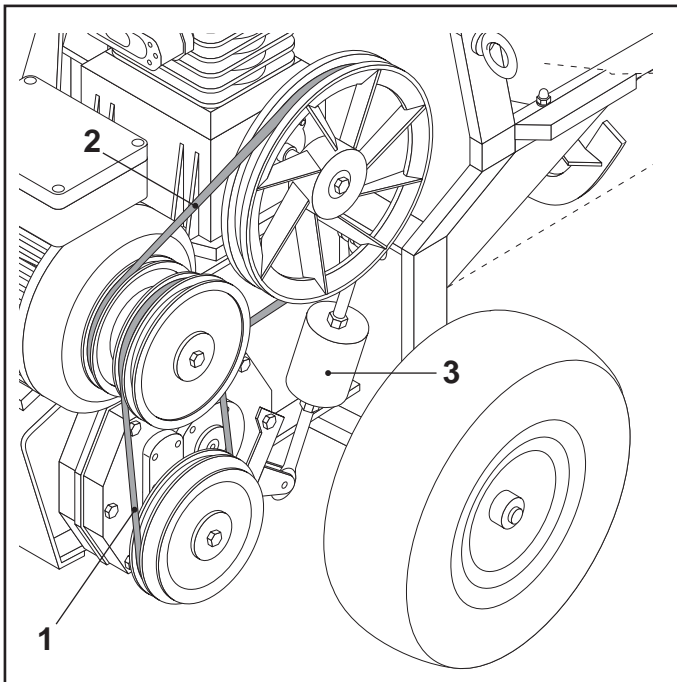

FIG.39
- Check and replace the transmission belts if necessary (FIG.39-REF.1) and (FIG.39-REF.2).
- Check the efficiency of the buffer (FIG.39-REF.3): the efficiency of this element guarantees the integrity of the machine parts in the case of overloads generated by blockage in the valves.